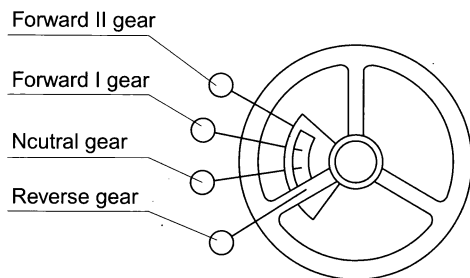

Figure1-12 Gear position
1.5.3 Gear-Shifting Operation (Figure 1-12 & 1-13)